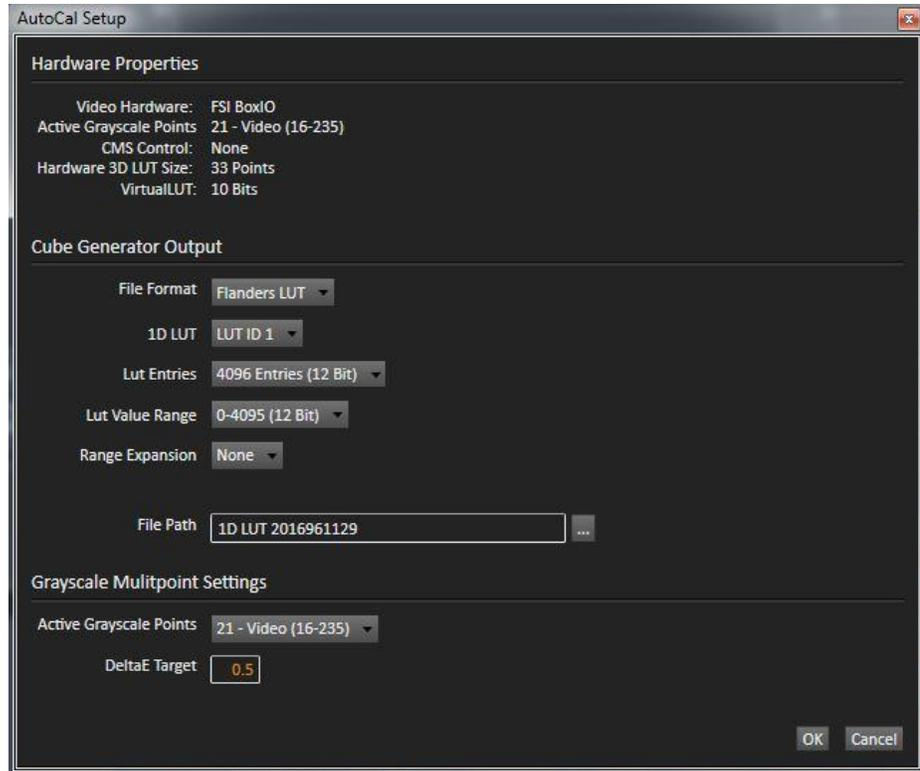

Figure 5. CalMAN AutoCal Setup dialog, for selecting options for 3D LUT creation.
1. On the *1D Ramp LUT* page, if you wish to create a 1D LUT, click the *AutoCal* button (rotating arrows) at the right end of the meter action buttons. The *AutoCal Setup* dialog then appears (Figure 5).